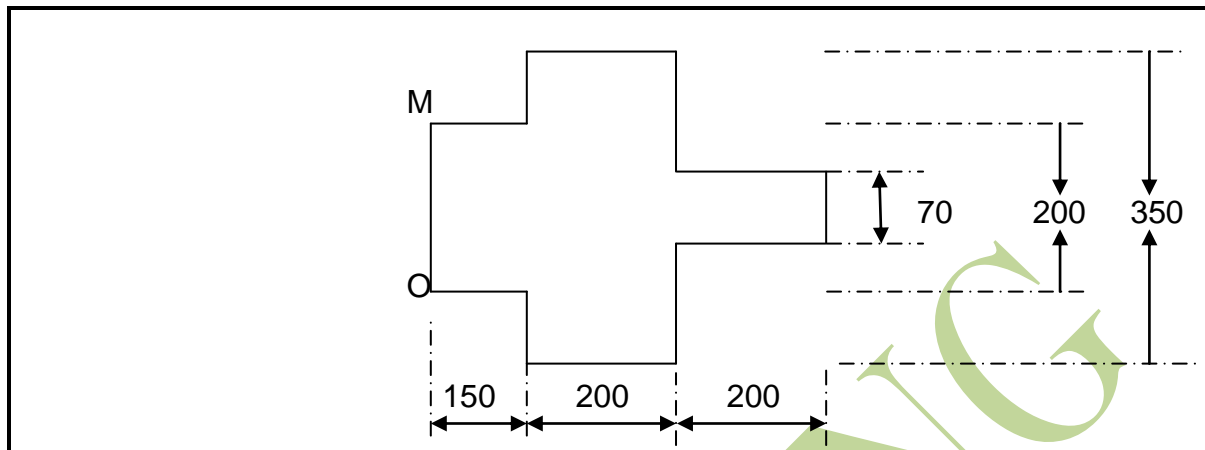

FIGURE 1
- 4.2 Calculate the position of the centroid from MO of the lamina shown in FIGURE 1.